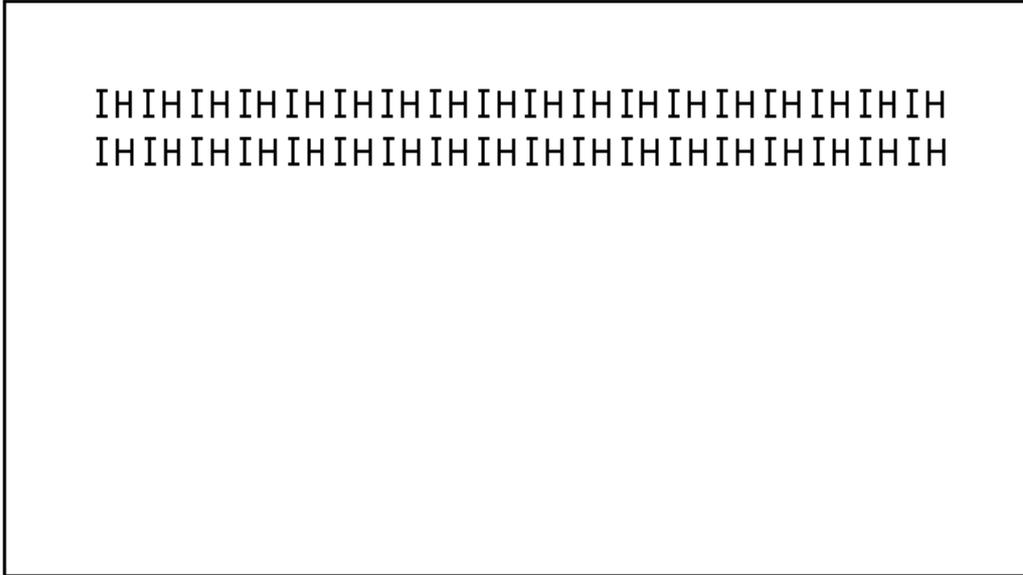

Figure 6-2. IH Test Pattern
- Compare the printing at the JNL station with Figure 6-2.